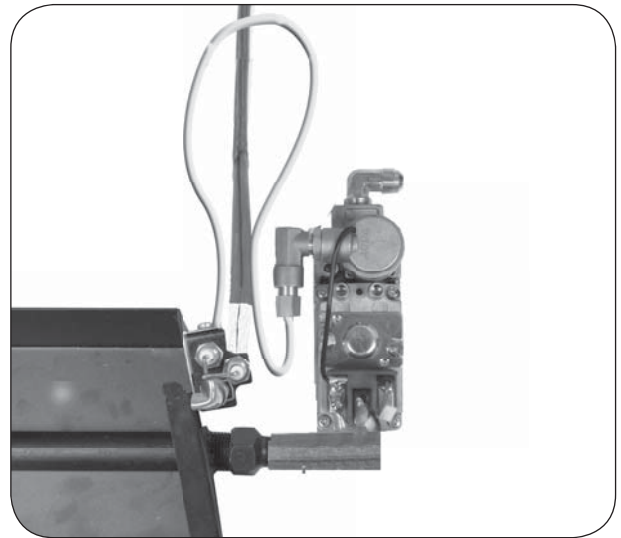

Fig. 6-2 Proper line and tube orientation
2. Ensure the pilot supply line is bent in a similar manner as shown in Fig. 6-2 to prevent damage / unsafe operation, and to allow for proper heat shield placement. Maintain this orientation at all times.